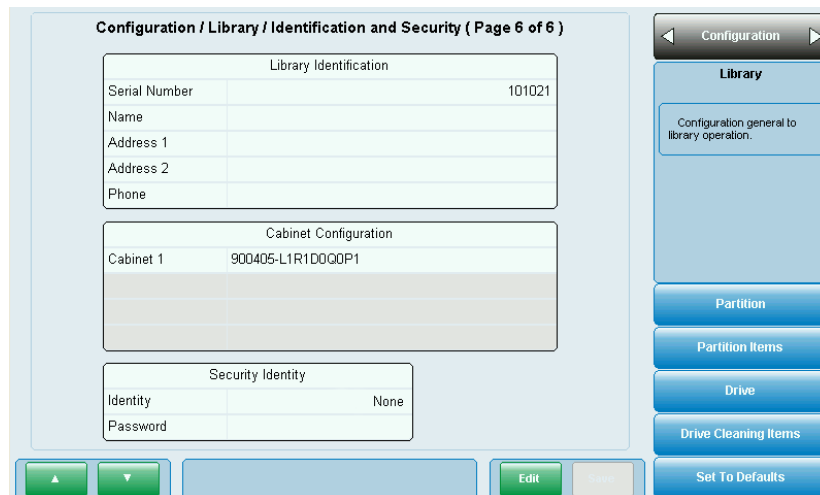
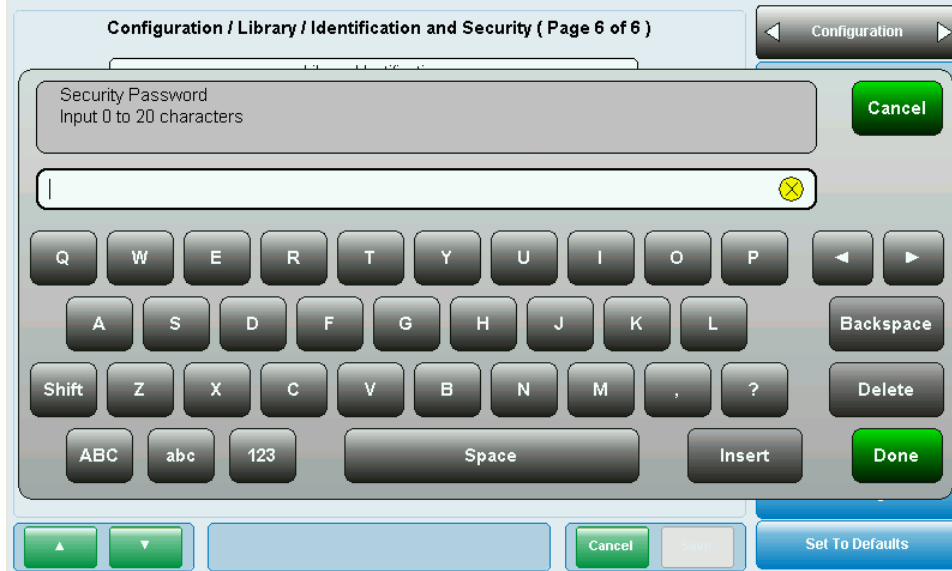

Figure 7-37 Configuration/Library/Identification and Security Screen
Figure 7-38 Screen for entering passwords
2. The libraries Security Identity passwords are entered on the Configuration/Library/Identification and Security screen. See Figure 7-37. To enter a password press the Edit button, which will bring up a screen that allows data to be entered as shown in Figure 7-38.